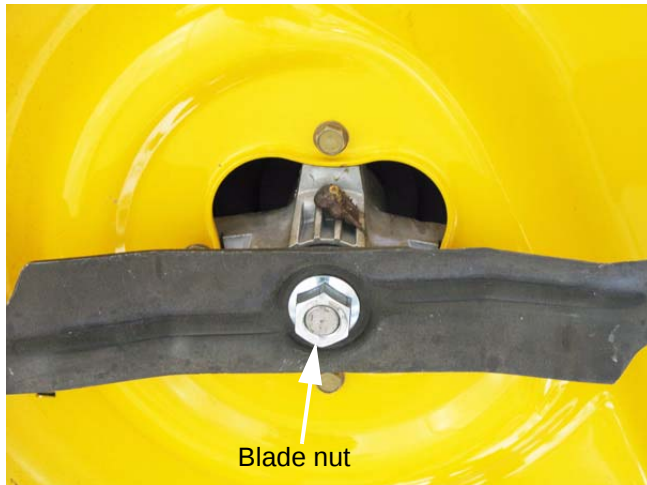

Figure 8.8
2. Remove the blade nuts using an impact wrench and a 15/16" socket. See Figure 8.8.